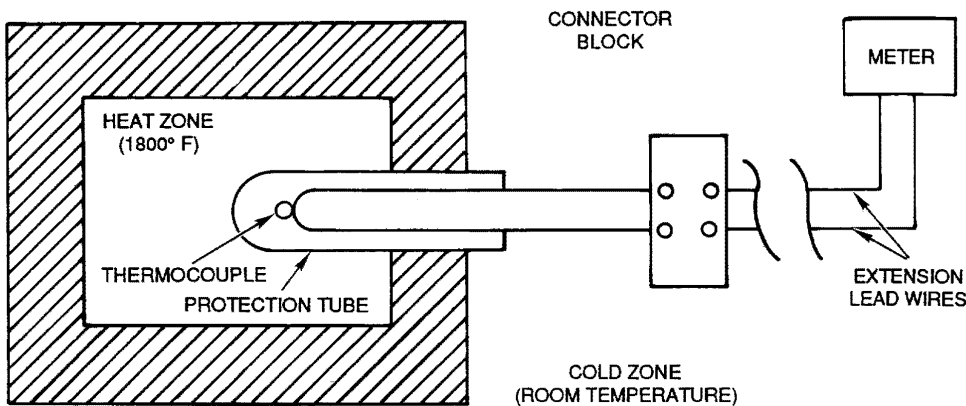

Figure 7. Typical Thermocouple Application
a. **USE.** Thermocouples are used as Thermoelectric Thermometers. The basic factors producing thermoelectric output can be controlled by alloying and heat treating. As a result the degree of this control Thermocouple wires have become one of the most reliable and widely used means of accurate temperature measurement (Figure 7).